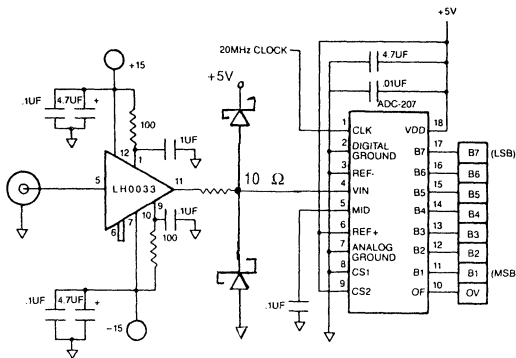

Figure 2. Typical Connections for Using the ADC-207
1. **Input Buffer Amplifier**—Since the ADC-207 has a switched capacitor type input, the input impedance of the 207 is dependent on the clock frequency. At relatively slow conversion rates a general purpose type input buffer can be used; at high conversion rates DATEL recommends either the HA-5033, the LH-0033 or Elantec 2003. See Figure 2 for typical connections.